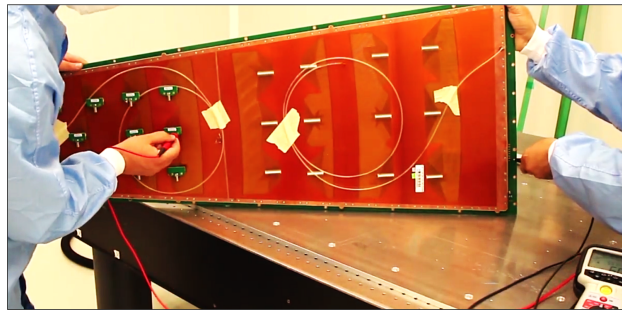

Figure 117: Testing the induction gap (3).
Step 10: Follow the same procedure for all the readout sectors of the detectors (Fig. 117).